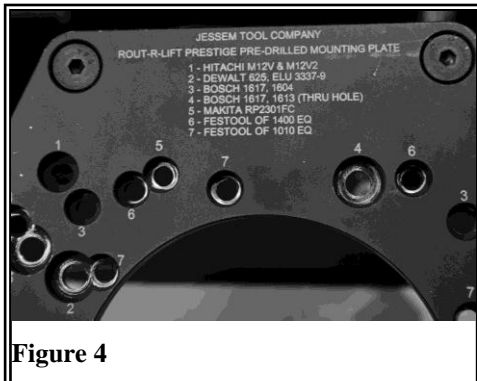

Figure 4
3. Turn the carriage plate over and locate your router from the legend on the top of the plate. See Figure 4 and Table 1.